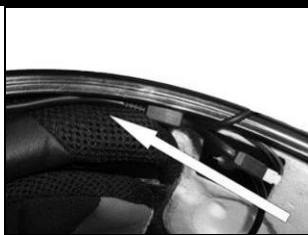

Fig. 30
- Position the battery connector and wiring underneath the shell gasket (Fig. 30).